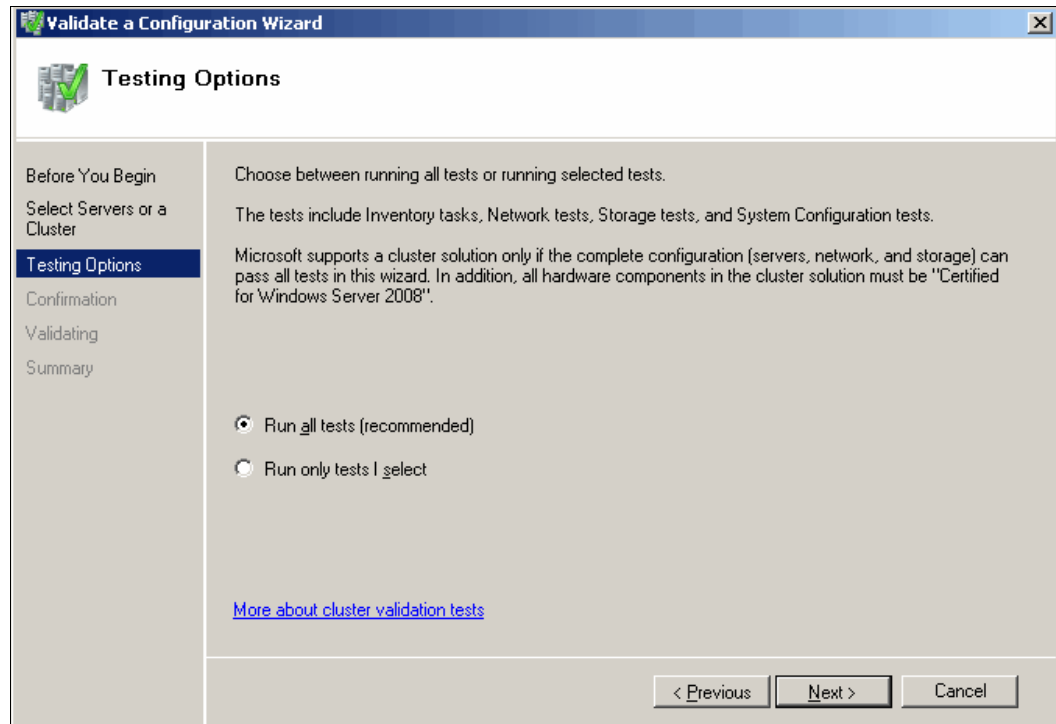

Figure 19-15 Testing Options
3. Follow the instructions in the wizard to specify the two servers and the tests, and then run the tests. To fully validate your configuration, run all tests before creating a cluster. Select the Testing Options (in our example, we selected Run all tests) to run the tests as shown in Figure 19-15 on page 569 and click **Next**.